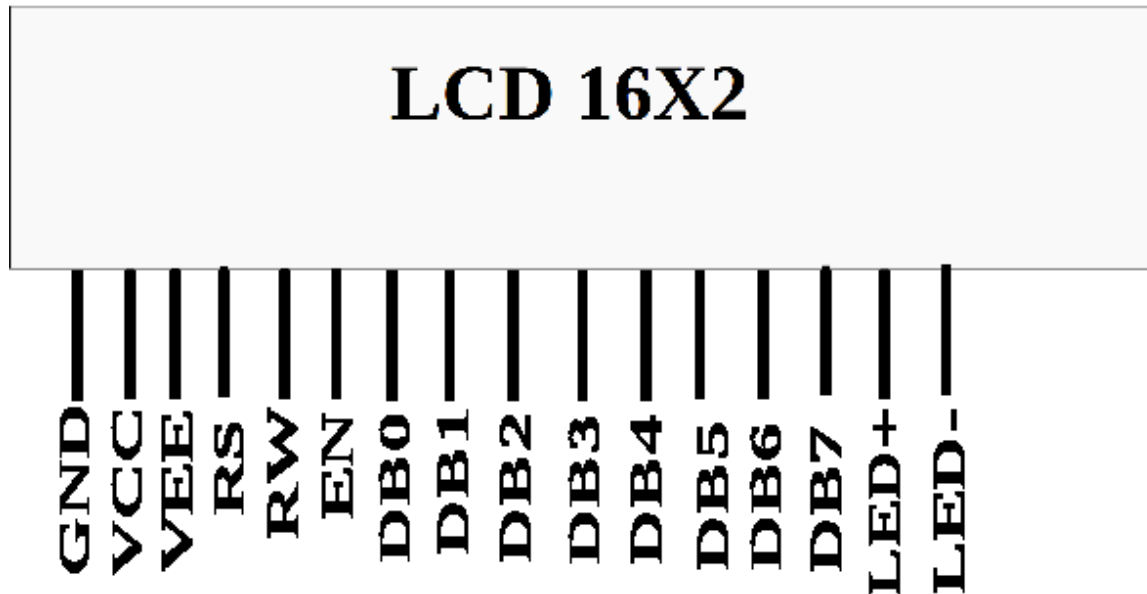

Figure 1.1.1.1: LCD pins
- 1.1.1. Plug the LCD in Fig. 1.1.1.1 to the breadboard.